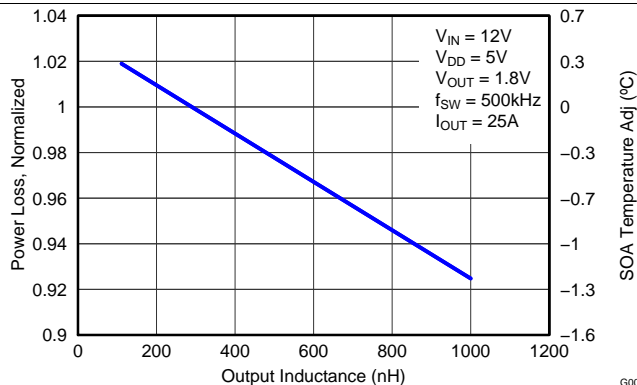

Figure 9. Normalized Power Loss vs Output Inductance
- Normalized Power Loss for output inductor ≈ 1.01 (Figure 9)
- SOA adjustment for output inductor $\approx 0.2^{\circ}\text{C}$ (Figure 9)